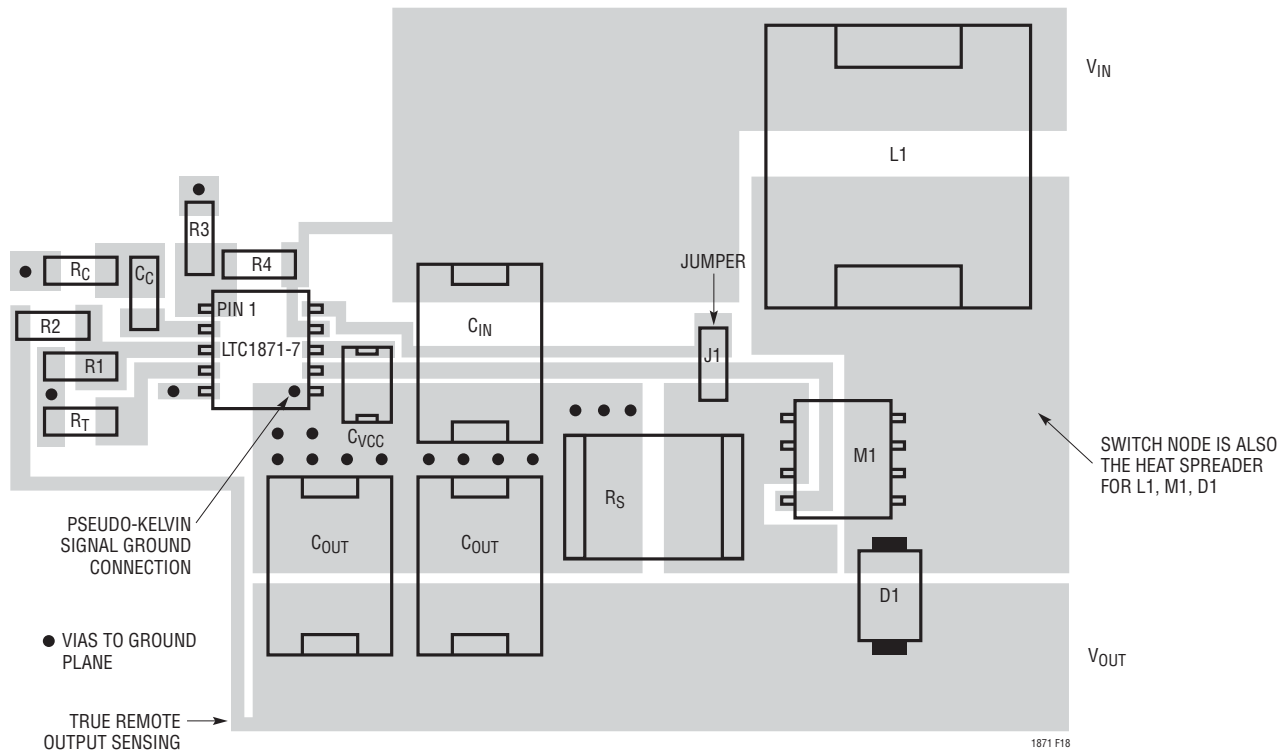

Figure 18. LTC1871-7 Boost Converter Suggested Layout
6. Place the small-signal components away from high frequency switching nodes. In the layout shown in Figure 18, all of the small-signal components have been placed on one side of the IC and all of the power components have been placed on the other. This also allows the use of a pseudo-Kelvin connection for the signal ground, where high  $di/dt$  gate driver currents flow out of the IC ground pin in one direction (to the bottom plate of the  $INTV_{CC}$  decoupling capacitor) and small-signal currents flow in the other direction.